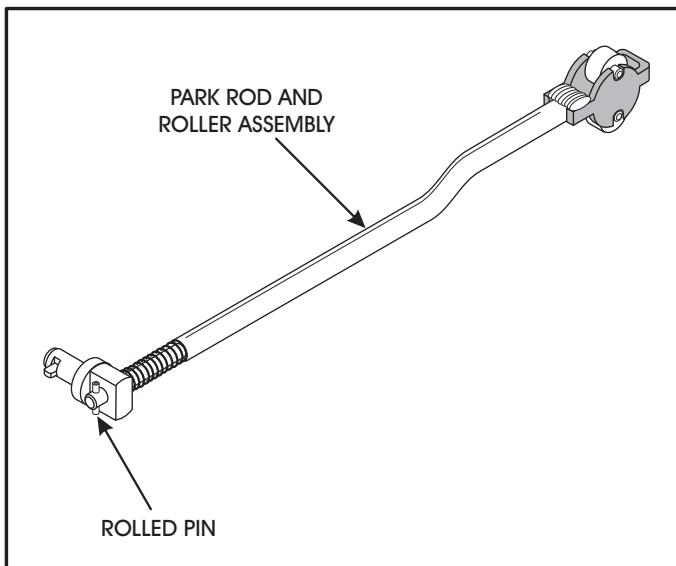

Figure 64
6. Inspect the rolled pin in the park rod and roller assembly **very** closely, as shown in Figure 64, for any damage or bent.